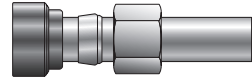
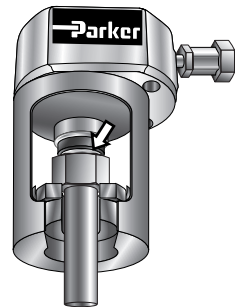

Figure 49
Figure 51
1. Assemble CPI™ nut, CPI™ Ferrule and body die onto tubing as shown in Figure 49. Be sure that the tapered end of the ferrule point toward the body die.
3. Insert Tube Assembly, Figure 49, into Nut Die as shown in Figure 51.